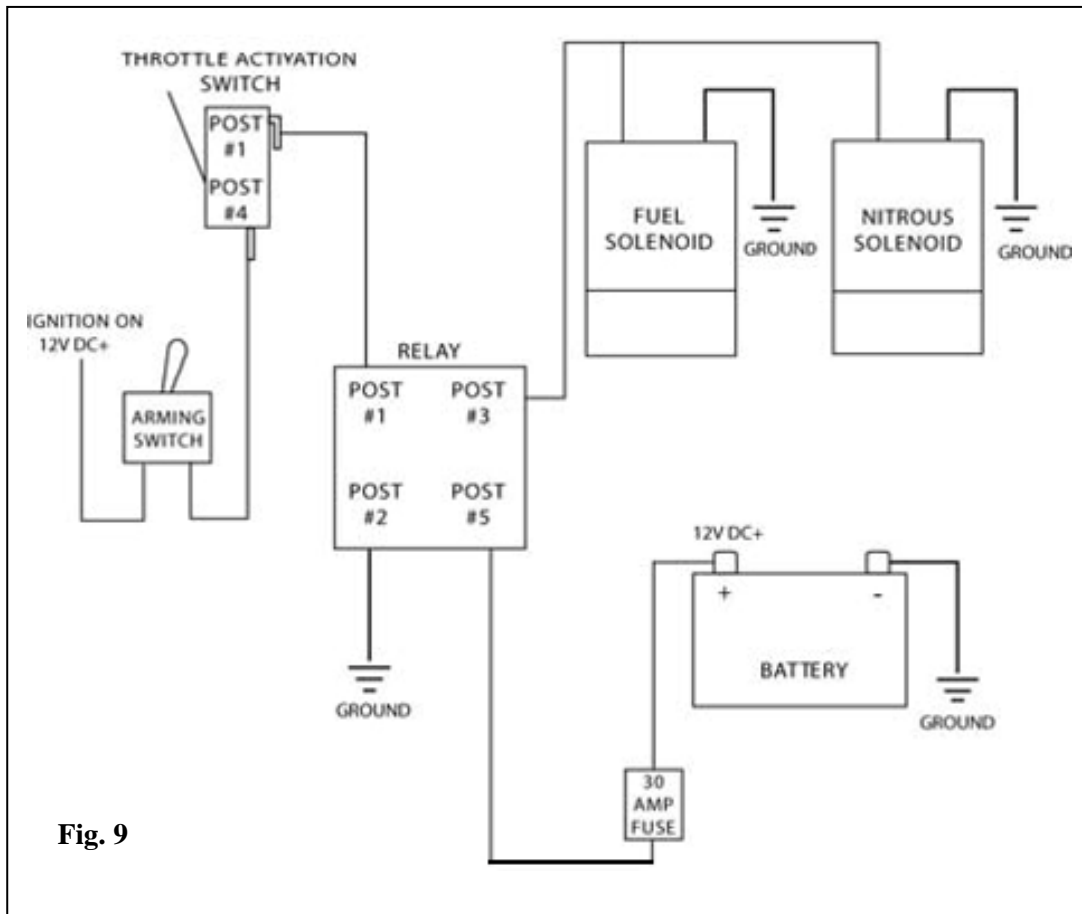

Fig. 9
- D.** Using the supplied electrical connectors and wire, refer to the wiring diagram for proper routing and electrical connections for the nitrous system (see Fig. 9). Always use the supplied fuse for electrical system protection in the event of a short in the system. The best positive (+) power source for the nitrous system is a direct connection to the battery's positive (+) post. Do not splice into the factory wire harness, it will not have the ability to supply the current required by the nitrous and fuel solenoids.